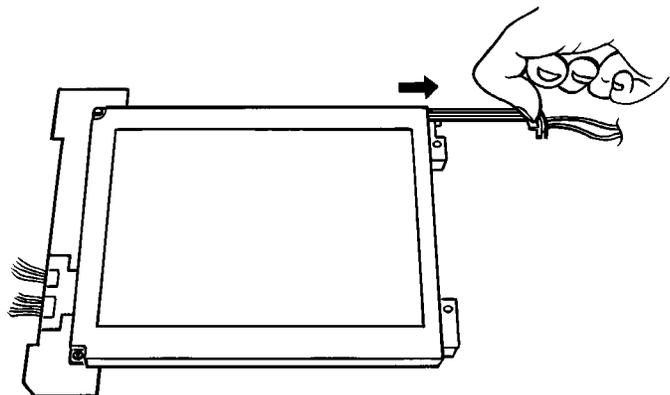

Figure C2.3c Backlight removal
- The backlight unit can now be slid out as shown in figure C2.3c and replaced with the new unit..